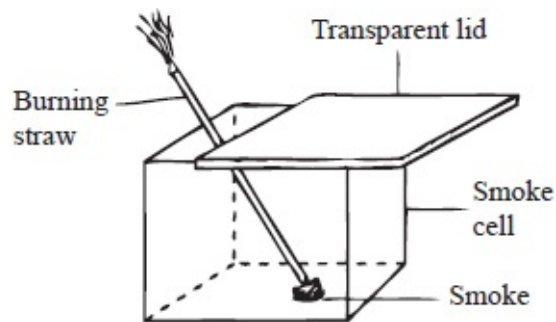

Fig. 5.6: Smoke cell
- Burn one end of a straw and let the smoke fill the smoke cell from the other end of the straw as shown in figure 5.6. Remove the straw.